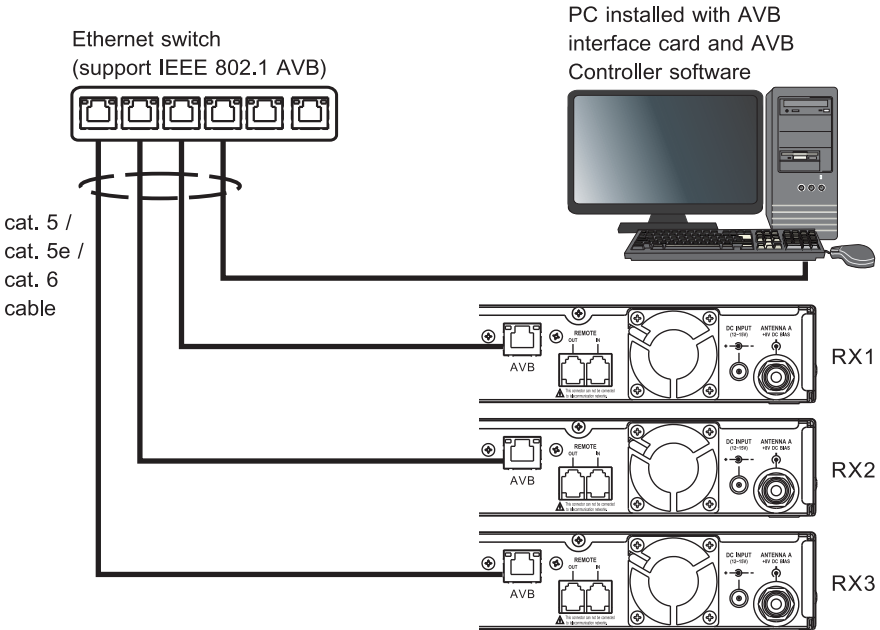

Fig. 30
1. AVB Network. Fig. 30:
- (A) Connect AVB RJ45 port on the device to the Ethernet switch via cat. 5 / cat. 5e, or cat. 6 cables to construct AVB Network.
- (B) This Ethernet switch should be able to support IEEE802.1 AVB.